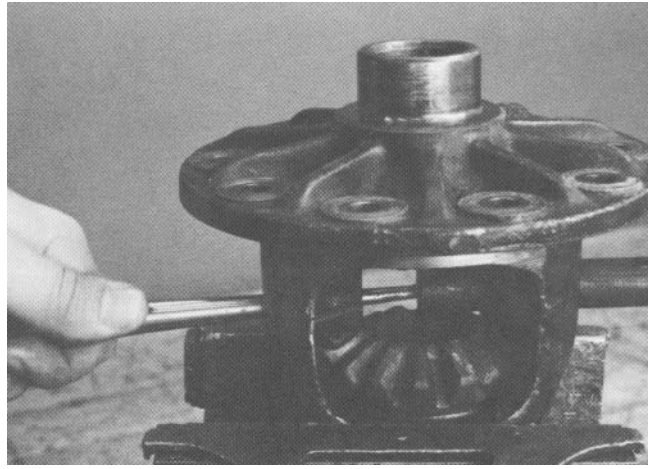

Figure 29
8. While supporting the differential in a vise, drive the pinion mate shaft from the differential with a long drift punch (Fig. 29).